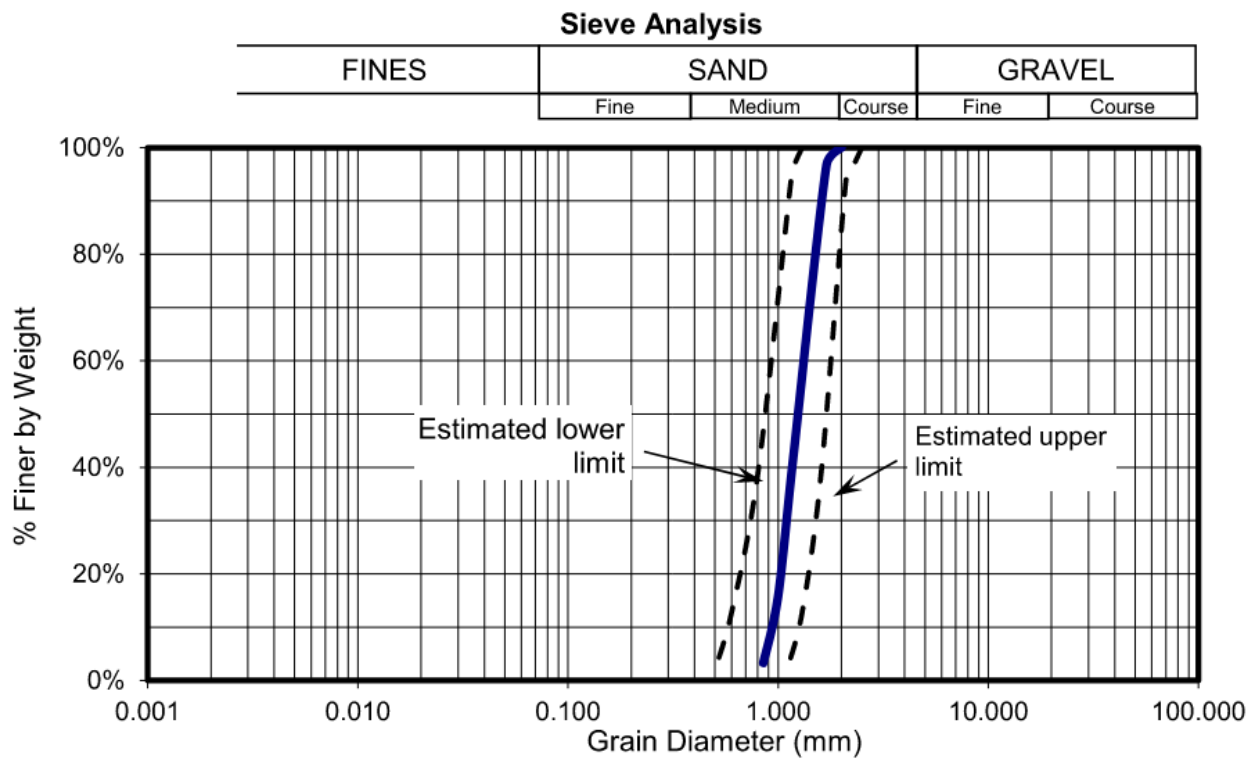

Figure 5: Estimated grain size distribution of backfill sand
The backfill material will be sand provided by competition organizers on site. The sand will be a clean, dry, rounded to subrounded sand with grain size as specified in Table 1 and Figure 5. The backfill material must be used as-is: no water, additives, or chemical stabilizers may be placed in the backfill material.
Competition organizers will make reasonable efforts to ensure the competition backfill materials meet the specifications in Table 1 and Figure 5. Teams will be allowed to examine a sample of the competition backfill at the captains' meeting. No backfill samples may be removed from the meeting room. Teams may modify their wall design at this time if they desire. See section 10 below.
- Clean sand with grain size distribution as specified in Table 1 and Figure 5